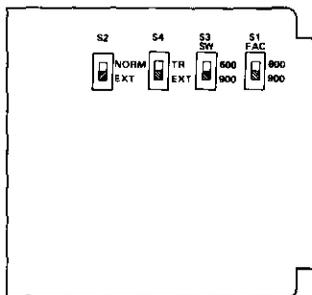

figure 2. 7011 and 7011A option switch locations
**3.05** Four switch options must be set before the 7011 and 7011A can be placed into service. Two of these switches, S1 and S3, select the port impedance toward the key-system or PBX line circuit. The other two switches, S2 and S4, select ringing options for the station. The locations of these switches on the module's printed circuit boards are shown in figure 2. Table 2 provides a brief explanation of the function and setting of each switch. Table 2 also con-